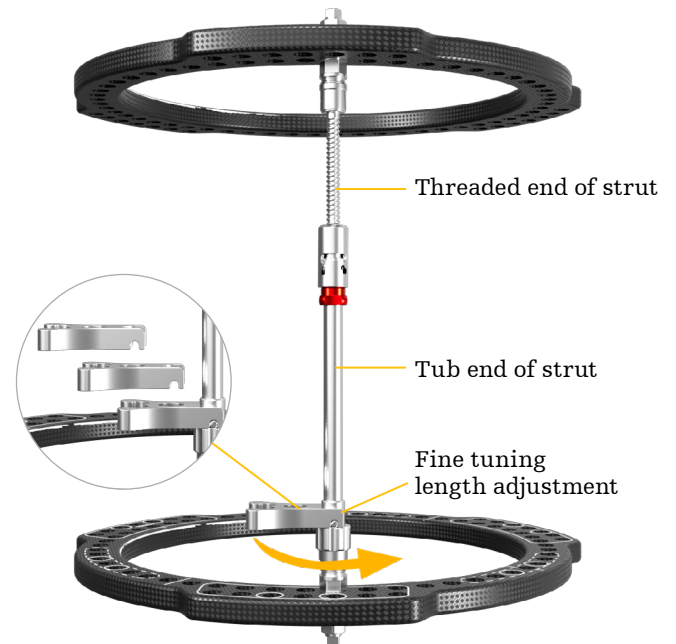

Figure 119
4. The telescopic strut wrench (4933-9-207) can be used to rotate the strut. The hooks of the narrow end of the wrench fit onto the pins directly above the dynamization wheel. **(Figure 119)** Each full turn of the strut distracts or compresses by 2mm.